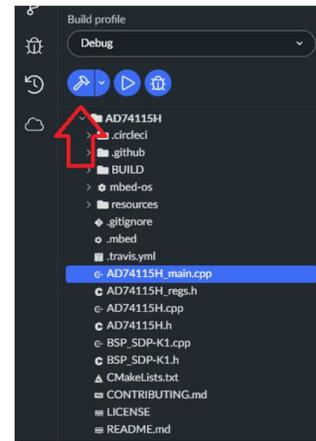

Figure 16. Compile MBED Project
8. Compile your project (see **Figure 16**).